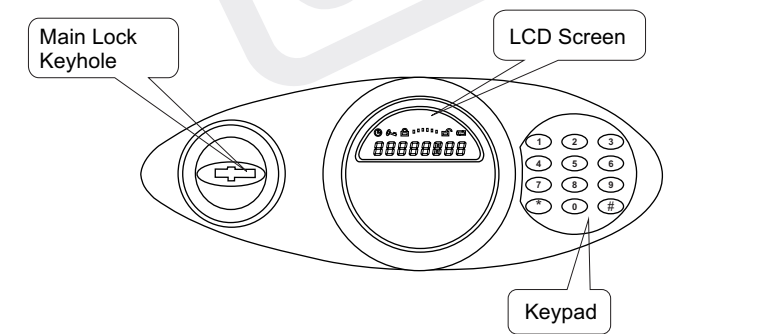
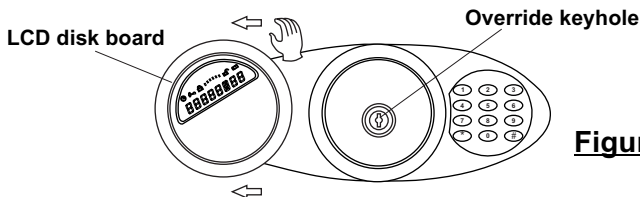

Figure 4 Panel
Figure 6
- ☐ Turn the LCD mounting disc clockwise and remove it from the panel (Figure 6, P.8 in User's Manual). Locate the override keyhole behind the disc. Insert the override key (Figure 3, P.5 in User's Manual) into its keyhole and turn it clockwise to the end, then insert the main key into the main lock keyhole (Figure 4, P.5 in User's Manual) and turn it clockwise to the end to open the door.
Insert the main key into the main lock keyhole (See Figure 3 and Figure 4) in the panel.